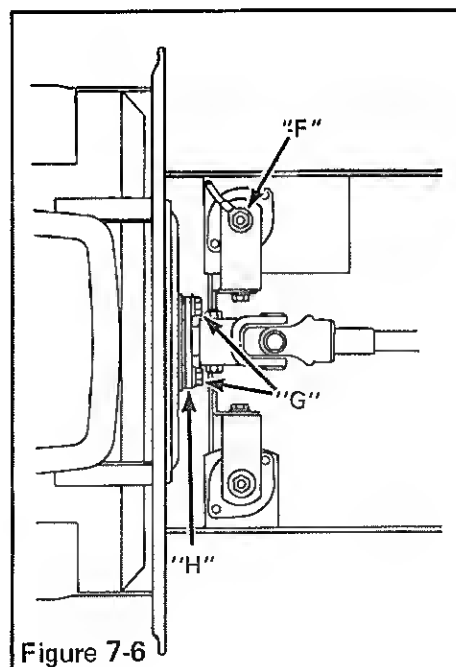

Figure 7-6
7. Remove R.H. rear engine mount bolt (F), Figure 7-6 & 7-7. Notice placement of star washer and negative battery cable.
8. Remove two bolts (G), Figure 7-6 securing engine hub to flywheel. Notice the flat washer between hub (H) and flywheel.
9. Scribe line on front engine supports and L.H. rear support along frame. Loosen two bolts (I) on each of the engine supports.
1. Set engine on R.H. rubber mount in rear. Lift engine and install (red) starter wire (K). Insert hub (H), Figure 7-6, of drive shaft into pilot hole in flywheel. Line up scribed line on front and rear engine supports with frame, insert two bolts (I) through each support. Secure mounts in place, holding with a gap of 1/2" (13 mm) between the bottom surface of the engine support and inside surface of the frame.